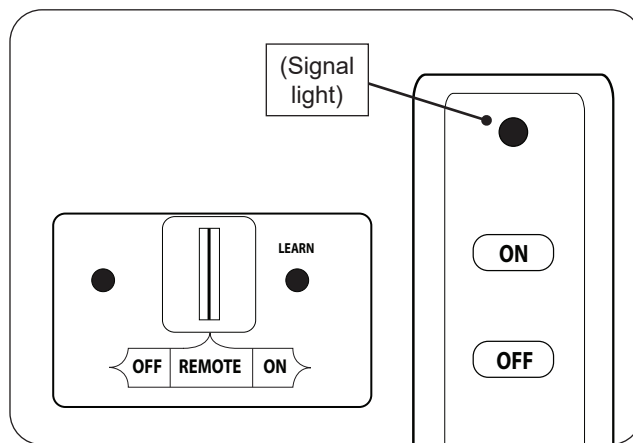

Fig. 22-1 Remote lighting
3. Slide the 3-position switch on the remote receiver to **REMOTE** (see Fig. 22-1).
4. Locate the remote transmitter and press the **ON** button (see Fig. 22-1). The ignition sequence will begin.